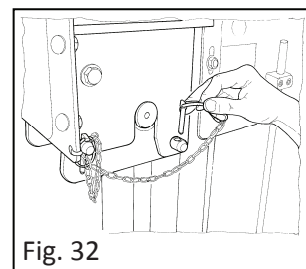

Fig. 32
2. Extract the locking wrist pins of the hydraulic cylinder without extracting the U-bar. (Fig. 32)